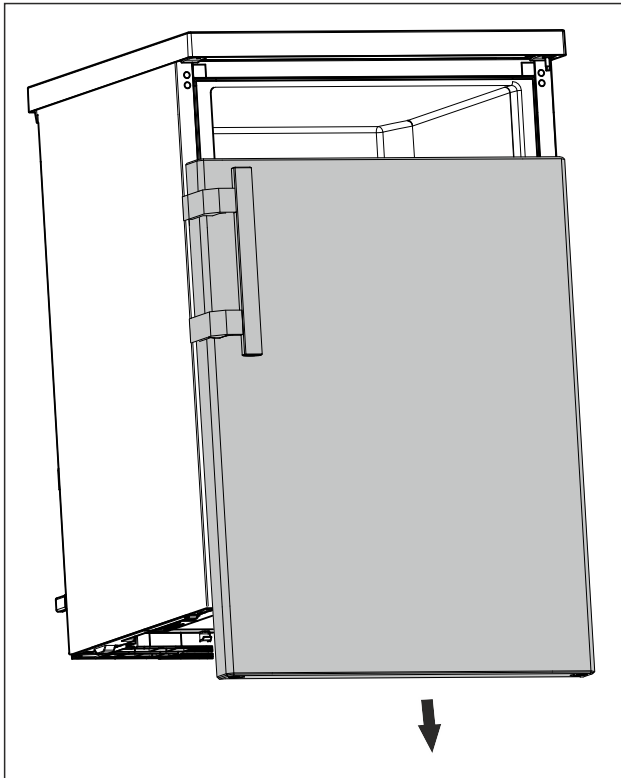

Fig. 15
- Remove the door downwards. (see Fig. 15)